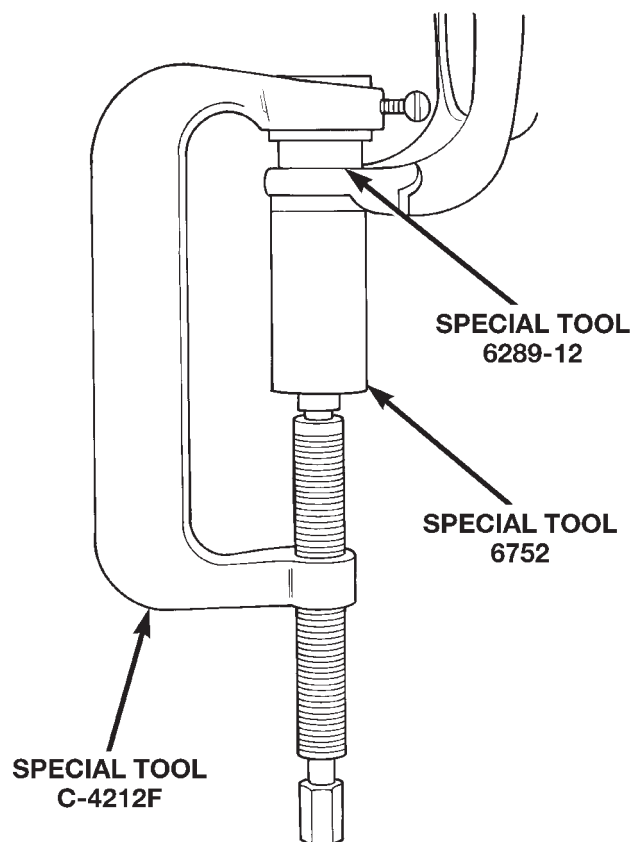

Fig. 24 Lower Ball Stud Install
(2) Position tools as shown to install upper ball stud (Fig. 24).